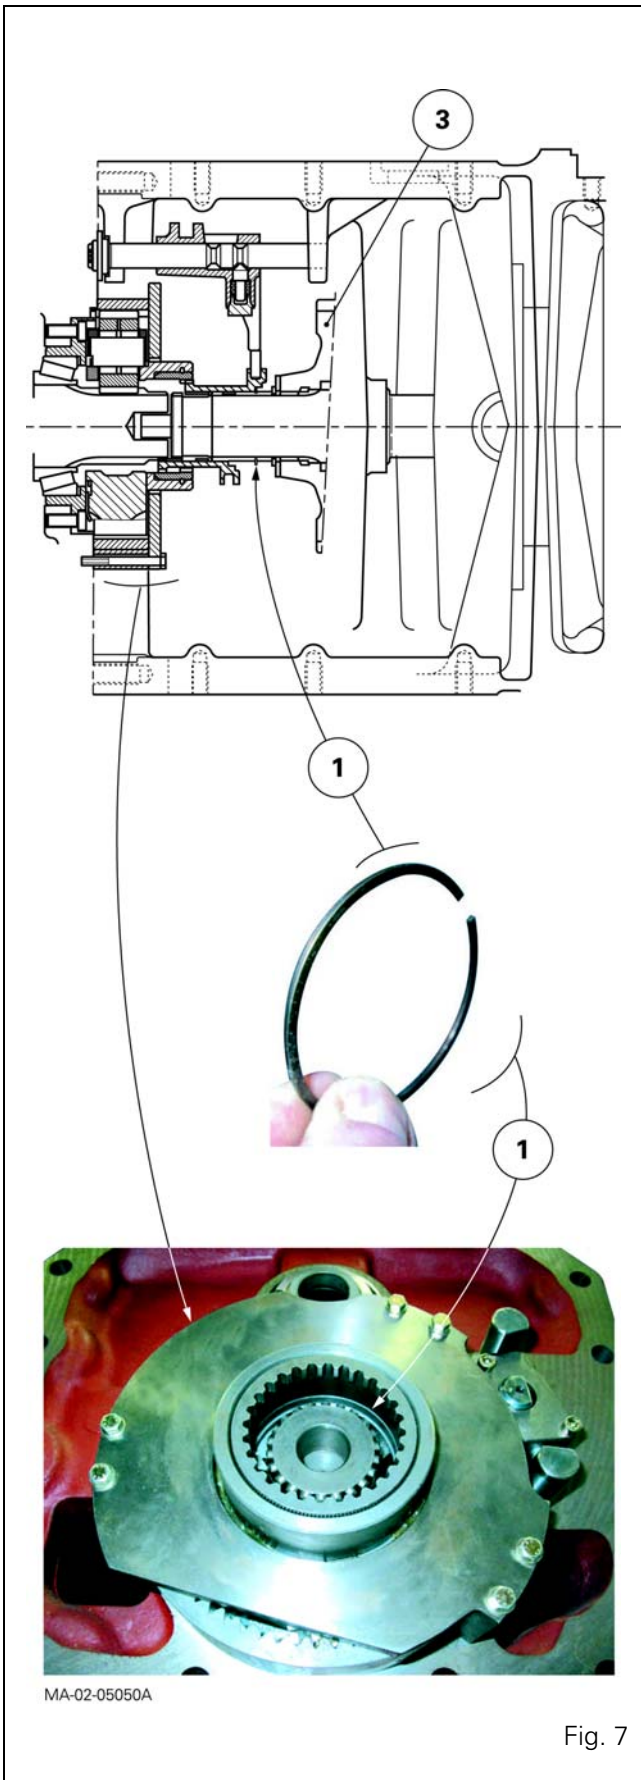

Fig. 7
- The presence of locking rings (1) on the drive pinion and the gearbox output shaft (Fig. 7).